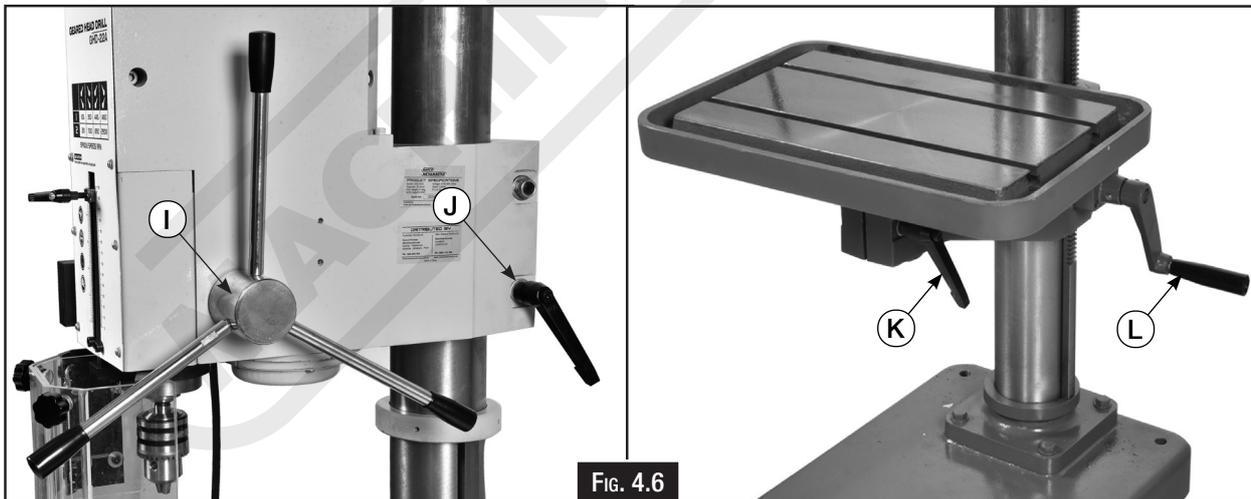

FIG. 4.6
- I. **Spindle Operating Levers:** Used to move the spindle up and down. (Fig. 4.6)